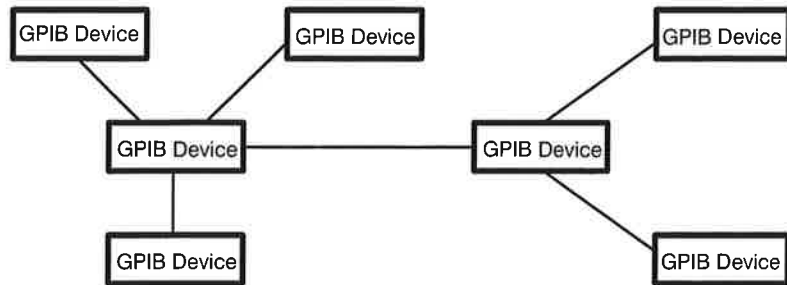

Figure 3-48: Typical GPIB Network Configuration
- There must be only one cable path from each device to each other device on your network (see Figure 3-48) and you must not create loop configurations.